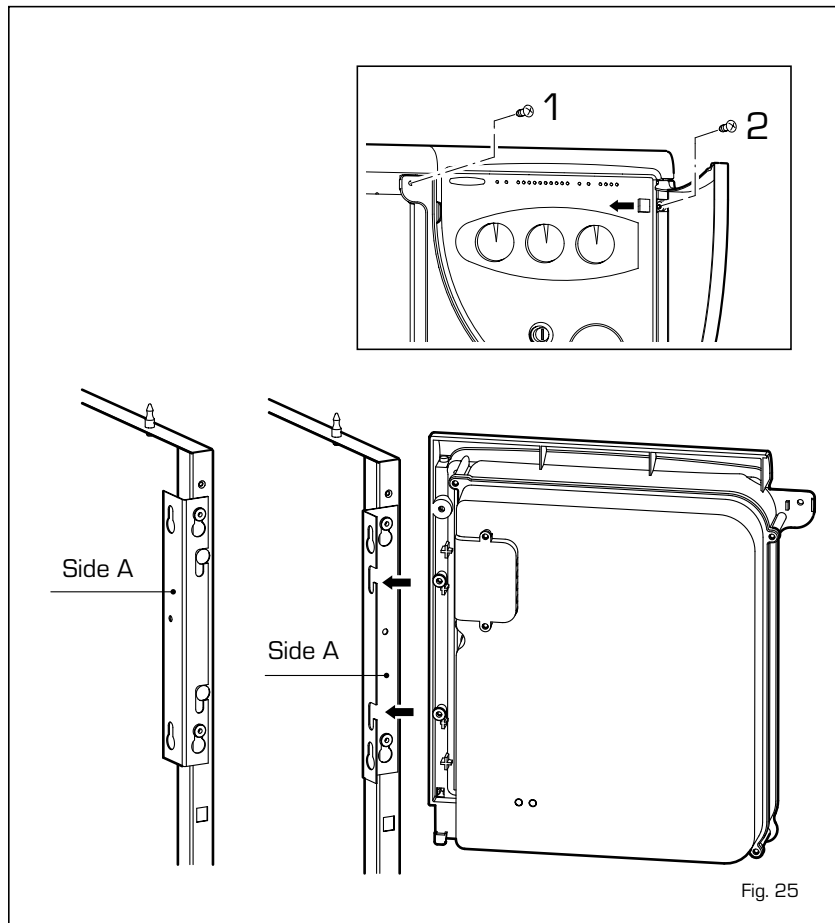

Fig. 25
4.6.1 Disassembly the control panel and skirt cover lid (fig. 25)